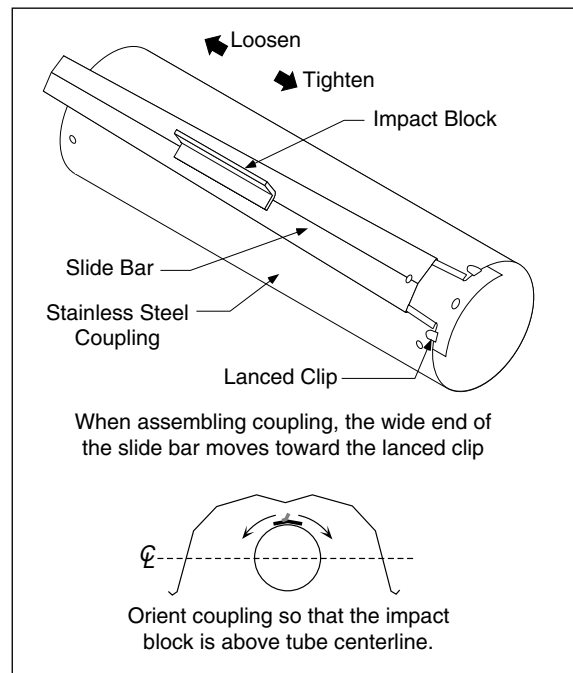

Figure 8. Coupling Assembly
- 5.4.10 Place a reflector over the flanged burner tube and slide it inside the first tube and reflector hanger. Slide the next reflector under the first reflector. Overlap the reflectors using the distance specified in the assembly drawings. Secure the two reflectors in place using the reflector support straps. Assemble the reflector support strap (see Figure 8).